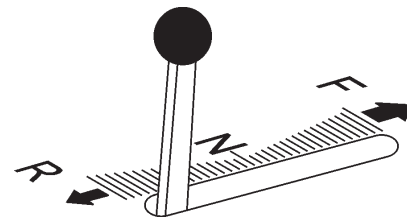

Figure 41. Transmission Engage/Disengage Lever (Reverse Position)
4. When reverse movement is required, move the **travel lever** towards the **REVERSE** position (Figure 41). Placing the travel lever fully in reverse will move the saw backwards at its maximum reverse speed.